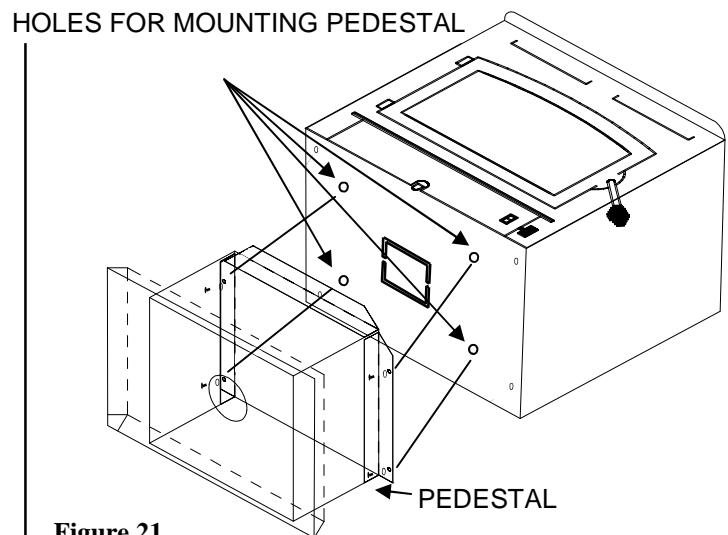

Figure 21
7. Open freestanding kit and obtain stand. Place stand against bottom of heater (angle side to heater).Center stand front to rear and also center stand left and right. Mark screw locations on bottom of the stove through outer holes of stand mounting angles. Set stand aside and drill four 7/32" holes in heater bottom.Then mount stand to bottom of heater with screws provided. (See Figure 21).
8. Obtain four (4) 3/16" self-tapping screws and secure the stand to the heater.